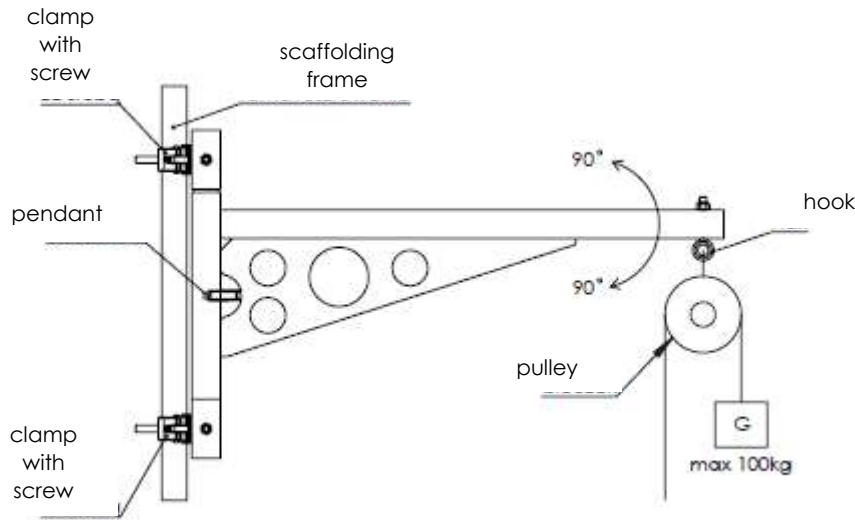

Fig. 2
14. Maximum weight to be applied on the arm is $G=100\text{kg}$ attached to the transport pulley (see Fig. 2).